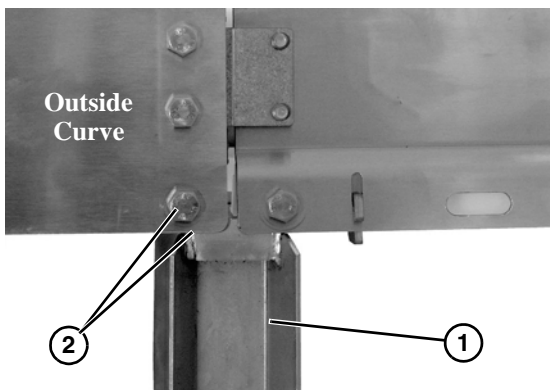

Figure 7
3. When attaching stand (Figure 7, item 1) to curved section on outside curve, make sure mounting hole on stand is to the inside of curve section and head of bolt is on the outside of curve section (Figure 7, item 2).